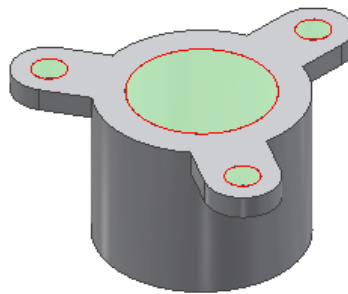

Figure 19-75 Preview of the patching surfaces
2. Choose the **Auto Detect** button available at the top of the dialog box; a preview of the patching surfaces is displayed in the modeling area, refer to Figure 19-75.